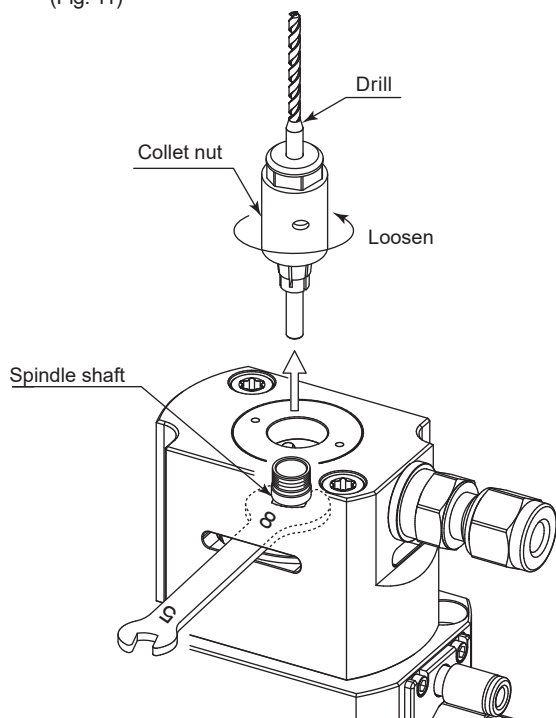

Fig. 8
- ① Loosen the collet nut with the drill installed as described in section "8. CHANGING THE DRILL". Keep turning the collet nut until it comes out of the spindle shaft together with the drill, and then remove the drill from the collet. (Fig. 8)